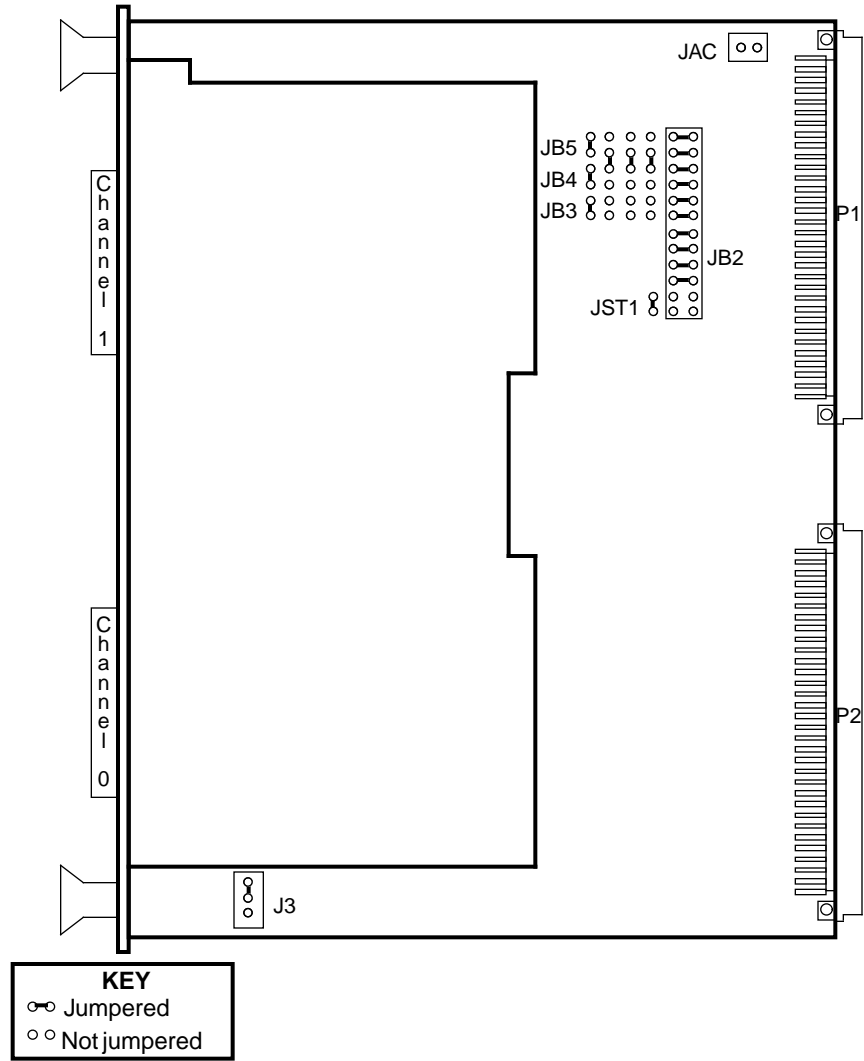

Figure 2. DC-5I Board Jumper Configurations for Controller 0
4. Change any jumpers necessary on the new DC-5I controller board. Refer to Figure 2 and Figure 3.